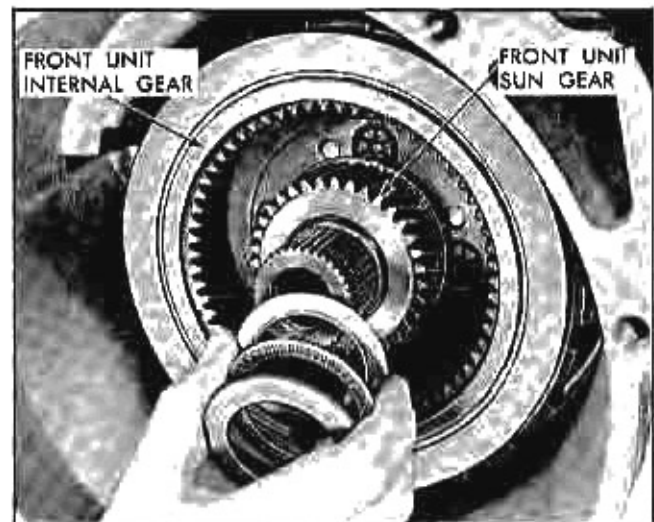

Fig. 114 Installing Thrust Bearing and Races on Front Sun Gear
7. Install front carrier thrust bearing race onto rear carrier shaft—inner flange out (Fig. 114).